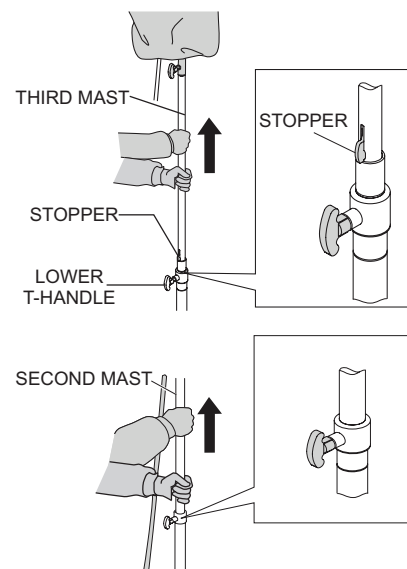

Figure 13. Raising The Mast
- Tighten lower T-handle (Figure 13) securely and raise third mast to desired height.